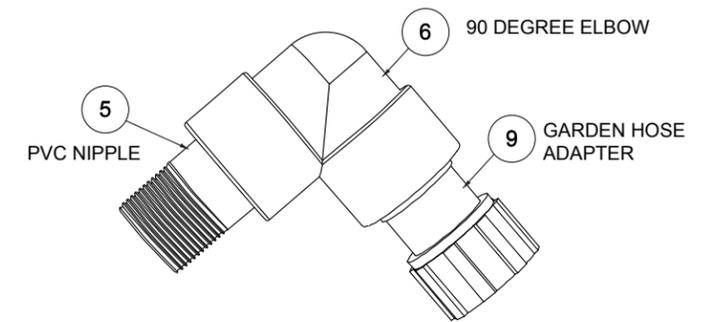
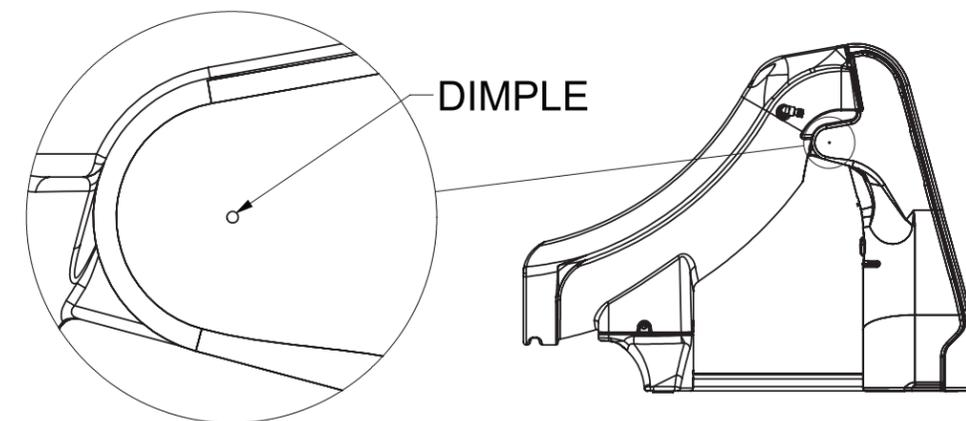

Figure 8
Figure 9
8. Observe the position of the exit of the slide as shown in Figures 8, 9 and 10 on pages 13 and 14.
1. Thread the nipple (5) into 90° elbow (6) as shown in Figure 8. It is recommended to apply a thread sealant or Teflon tape to the threads to prevent leaking.
2. Install assembled nipple (5) and elbow (6) into the threaded hole in the left side of the runway.
3. Turn the assembled nipple (5) and elbow (6) until the open end of the elbow fitting is pointing back toward the bottom of the stairs as shown in Figures 9 and 11.
4. Install the garden hose thread adapter (9) into the open end of the elbow fitting (6) as shown in Figure 8. It is recommended to apply a thread sealant or Teflon tape to the threads to prevent leaking.
5. Locate the dimple on the left side of the ladder as shown in Figure 9. Place the hose clip screw (8) through the hole in the hose clip (7). Align the screw with the dimple in the ladder, and install the screw into the ladder side wall. Tighten until snug making sure not to overtighten the screw.